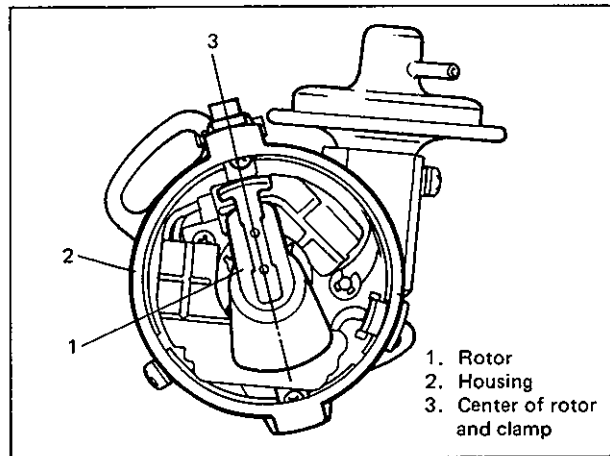

Fig. 6F-19 Distributor Rotor Position
- 3) Insert distributor into gear case in such a way that center of distributor flange will coincide with distributor mounting screw hole provided in distributor gear case. When inserting distributor completely, position of distributor rotor becomes as shown in Fig. 6F-20. Secure distributor in place tentatively by making mounting screw finger-tight.